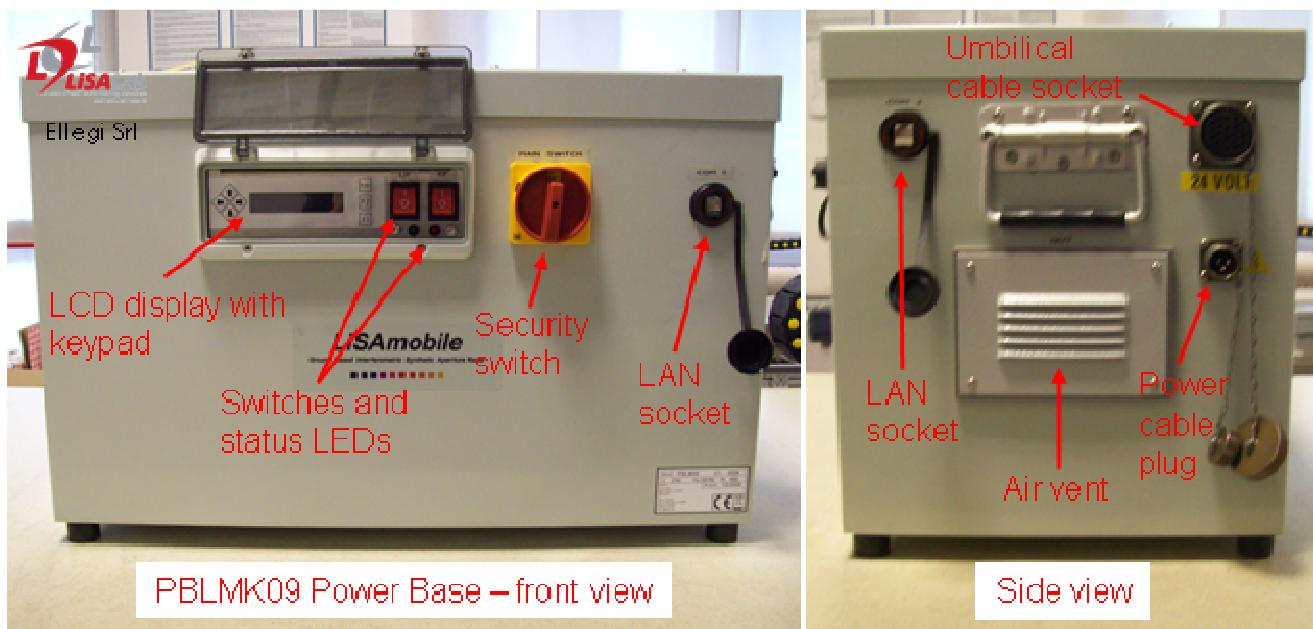

Figure 4: LISAMOBILE PBLM power base main features. Front view (left) and side view (right).
**3. Power base PBLM:** the power base contains the electronic devices needed in case of a power line fault and the computing and storage facilities needed for the management of the data acquired by the GBInSAR LM system. On its frontal side it features an LCD display equipped with a keypad, two switches, two status LEDs, a security switch and a LAN socket. On its lateral side it features the power line plug (3 pins standard MIL size 16 plug), the umbilical cable socket (22 pins standard MIL size 28 socket) and a second LAN socket (Figure 4).